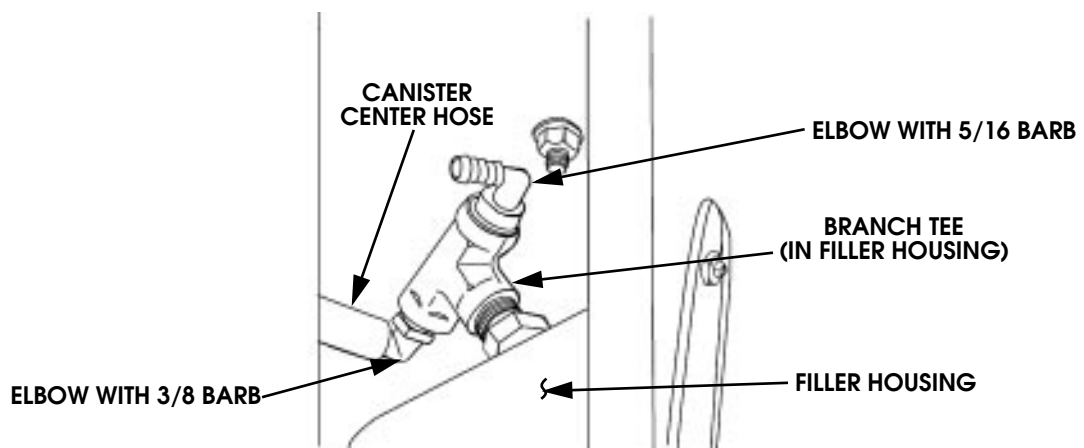

Figure 3 Branch Tee Installation
8. Install male branch tee and plastic elbow fittings as follows (Figure 3):
- a. Apply Loctite PST to male threads of branch tee and install tee in filler housing (Figure 3). Tighten tee securely, then back it off about 45°, or enough to install elbow fittings.
- b. Install elbow fitting with 3/8 barb into branch tee. This fitting goes toward front of vehicle (Figure 3). Install fitting into tee dry. Do not use sealer. Position fitting so it is horizontal and aligned with center outlet on canister.
- d. Apply liquid soap to 3/8 barb of elbow fitting in branch tee installed in Step 8. Push canister center hose completely onto fitting as shown (Figure 3).
- e. Attach 5/16 diameter hose (from kit) to 5/16 nipple on supplemental rollover/relief valve with hose clamp (from kit) and to 5/16 barb of fitting in branch tee (Figures 3 and 4). Use liquid soap on plastic barbs.